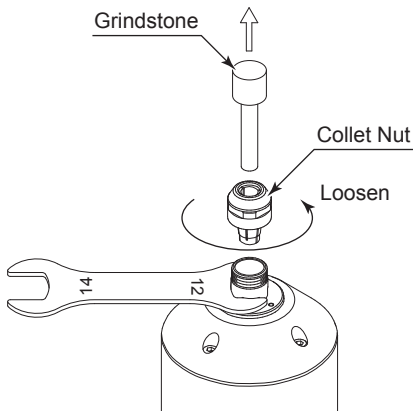

Fig. 3
- ① Remove the grindstone according to the section " 7. REPLACING THE GRINDSTONE " procedure above and remove collet nut assembly (Fig. 3).